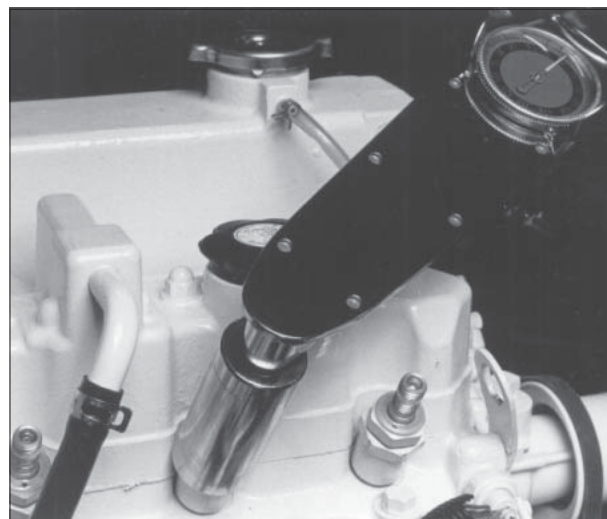

Figure 18: Reinstall injector. Torque to proper tightness.
- b. Screw in injector and tighten to 43 or 50 ft/lbs (6 to 7 kgm) (Figure 18).